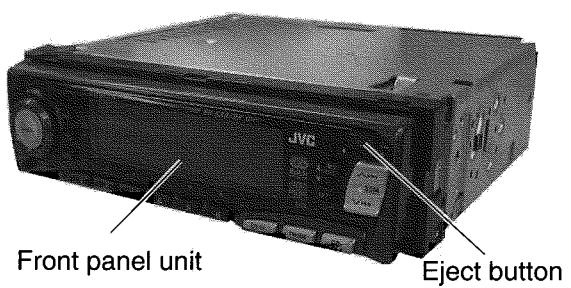

Fig. 1
■ Removing the front panel unit (See Fig. 1, 2)